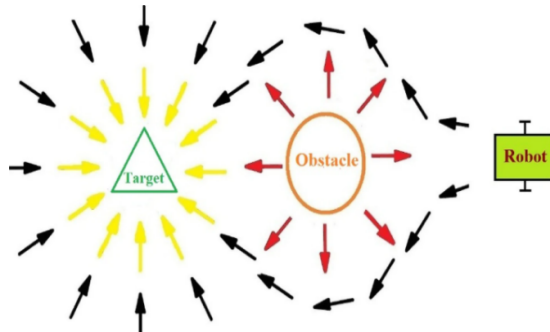

Figure 1: Attractive and repulsive forces.
Reactive behaviours: In each of the stages hereafter, you will write a robot controller program that implements the *Artificial Potential Field* (APF) approach, first one behaviour at a time, then integrating them all. Recall that, using APF, the velocity vector of your mobile robot is determined at each simulation step as the sum of the attraction force/s toward the goal and various repulsive forces away from the obstacles, as summarized below and illustrated in Figures 1 and 2 hereafter.
1. Goal destination: (a) Define an APF model that will *drive* the mobile robot *toward* the goal, regardless of initial position and orientation, and *stop* when (approximately) *at* that location. The goal destination should be located as per the map in Figure 1. Note that it is not a physical object and does not act as an obstacle. You can assume the goal location (X-Y cords on the map) is always known to the robot, and use the positional sensor to retrieve the robot's location. Explain your design clearly in the report, providing the necessary equation/s for the APF vector/s, dropoff, etc.